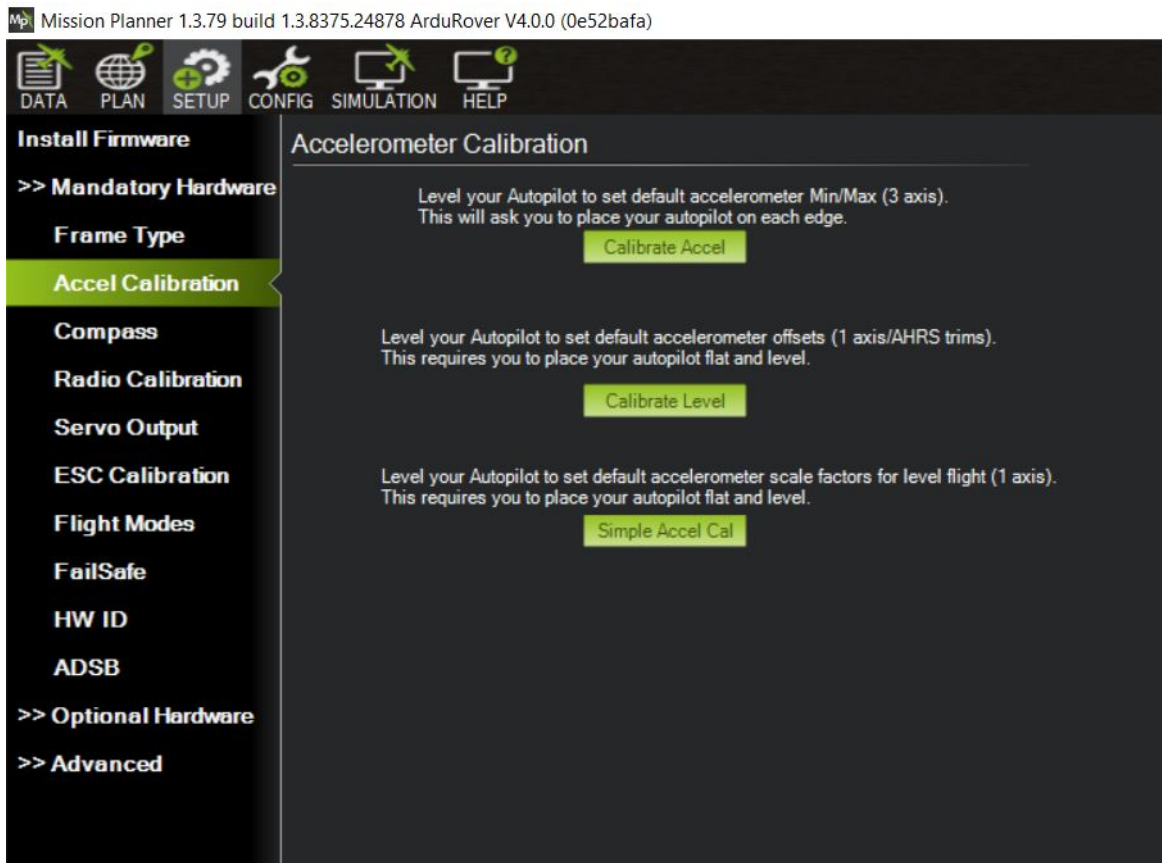

Figure 67: Accel Calibration
13. Select Calibration Level. (See Figure 67)